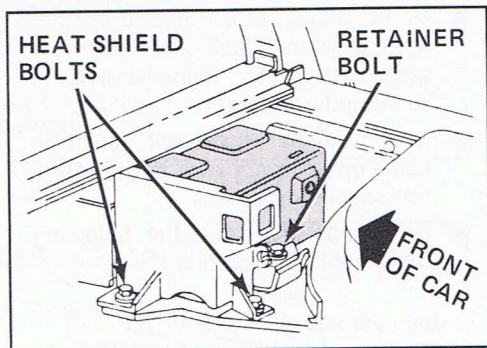

Figure 2 - Battery compartment
5. Remove the battery retainer by unscrewing the retainer bolt. See Figure 2.